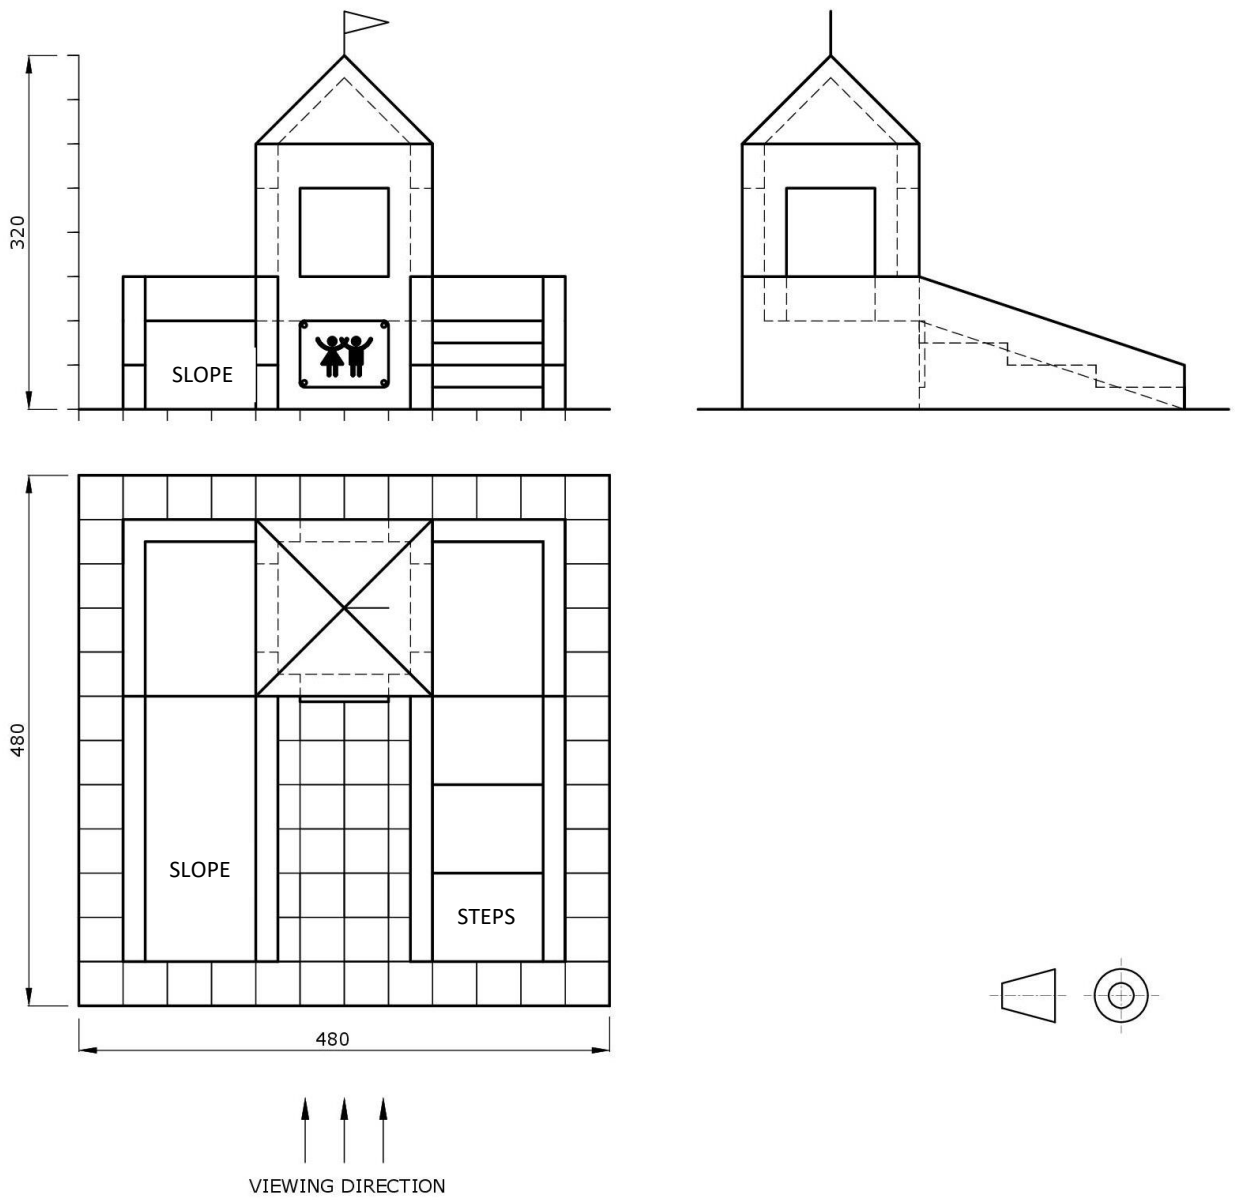

Figure 1
1. Three orthographic views of a model kids' playground equipment are shown in Figure 1. The equipment consists of a flight of steps and a slide connected by a passageway which has a pyramidal top. The passageway has a doorway on each side and two windows, one at the front and the other at the back. The slide and steps have a low safety wall on each side. Rubber tiles surround the equipment.